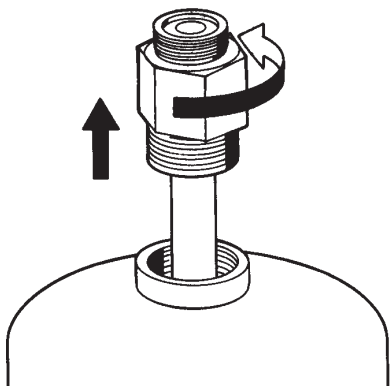

FIGURE 2
- ▶ 10. Remove tank adaptor/tube assembly from each tank. See Figure 2.